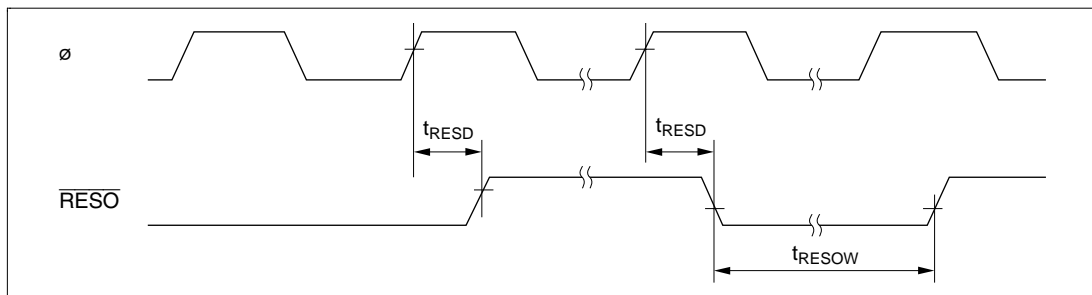

Figure 23.25 Reset Output Timing
23.5.10 Reset Output Timing	Figure 23.25